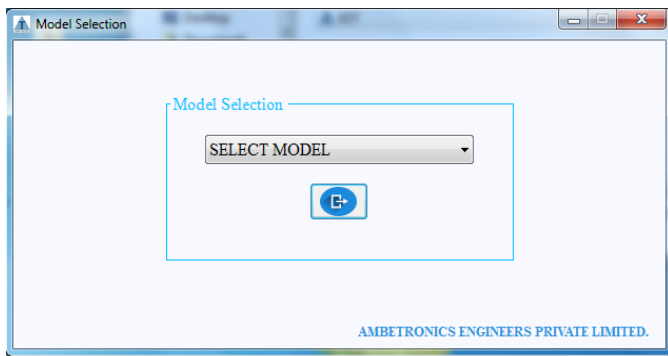

Figure 17
- Run executable file in folder “AEPL-IoT” and window as shown in Figure 17 will open. Select the specific model name from the drop-down and click on submit button.